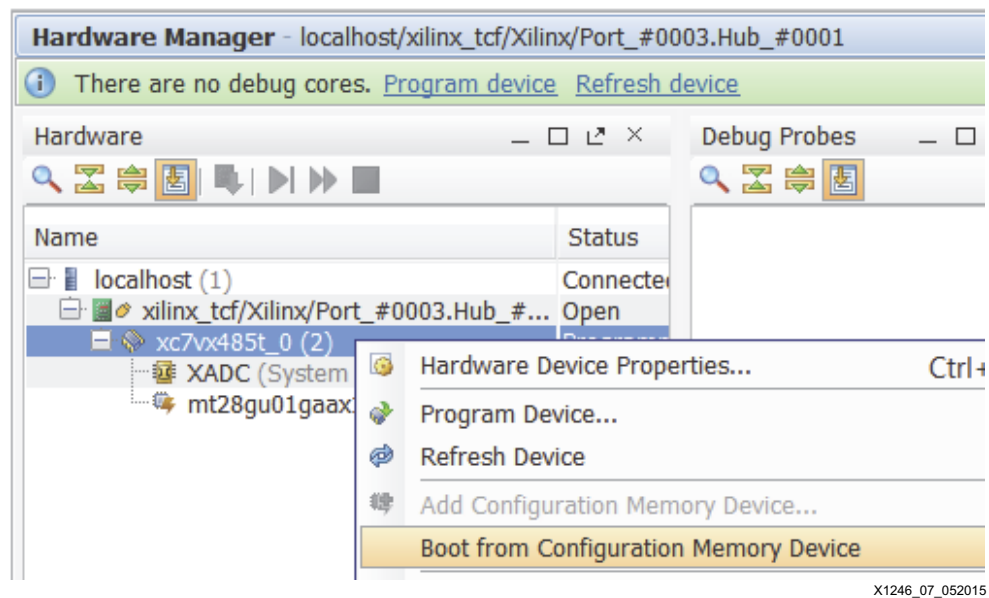

Figure 7: **Boot from Configuration Memory Device**
- Or, in the Vivado Hardware Manager GUI, right-click on the device and select the **Boot from Configuration Memory Device** option as shown in Figure 7.